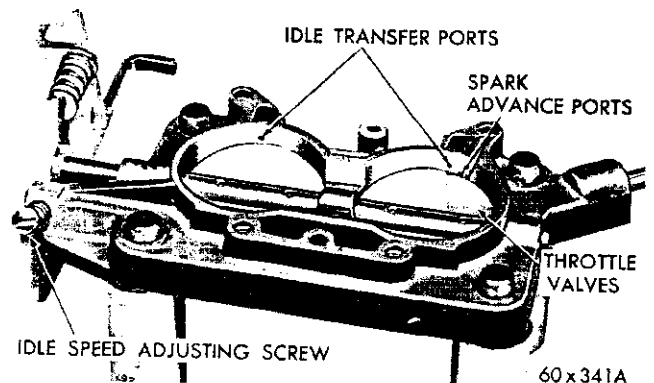
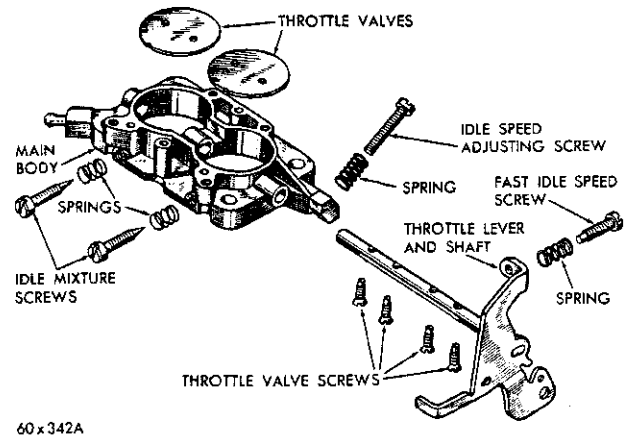

Fig. 12—Ports in Relation to Throttle Valves
Fig. 13—Throttle Body (Disassembled View)
(1) During manufacture, the location of the idle transfer ports and the spark advance control ports to the valves are carefully established for one particular assembly (Fig. 12).
(2) If a new shaft should be installed in an old worn throttle body, it would be very unlikely that the original relationship of these ports to the valves would be obtained. Changing the port relationship would adversely affect normal car operation between the speeds of 15 and 30 miles per hour. If it has been determined, however, that a new shaft or valves are to be installed, adhere closely to the following instructions:
(3) Mark the valves to be sure each is replaced in the same bore from where removed (if replacing throttle shaft only). Fig. 13.)
(4) Remove the screws that hold the throttle valves to the shaft. Slide the valves out of shaft and bore.